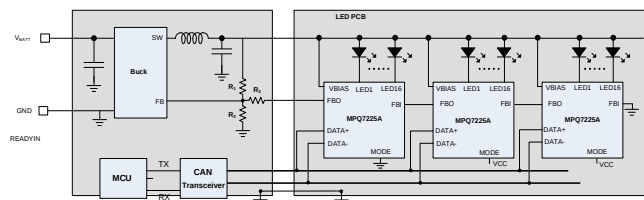

Figure 21: AFC Modulator Network
Figure 21 shows the AFC modulator network.
For example, if the MPQ7225A has 2 LEDs in series ($V_{LED} = 6.3V$), set $V_{BIAS_O} = 7.1V$ when FBO is open. If the DC/DC converter's V_{FB} is 0.8V (based on Equation (6)), select $R_1 = 100k\Omega$ so that $R_2 = 12.7k\Omega$. If N is set to 100 via the OTP, set $R_3 = 100k\Omega$. Then the pre- V_{BIAS} voltage is 6.71V based on Equation (5). When N changes from 14 to 244, V_{BIAS} changes from 5.9V to 7.6V, so consider the pre- V_{BIAS} value set via the OTP as well as resistor selection when making this connection. The connection shown in Figure 21 on page 41 minimizes the V_{BIAS} range.